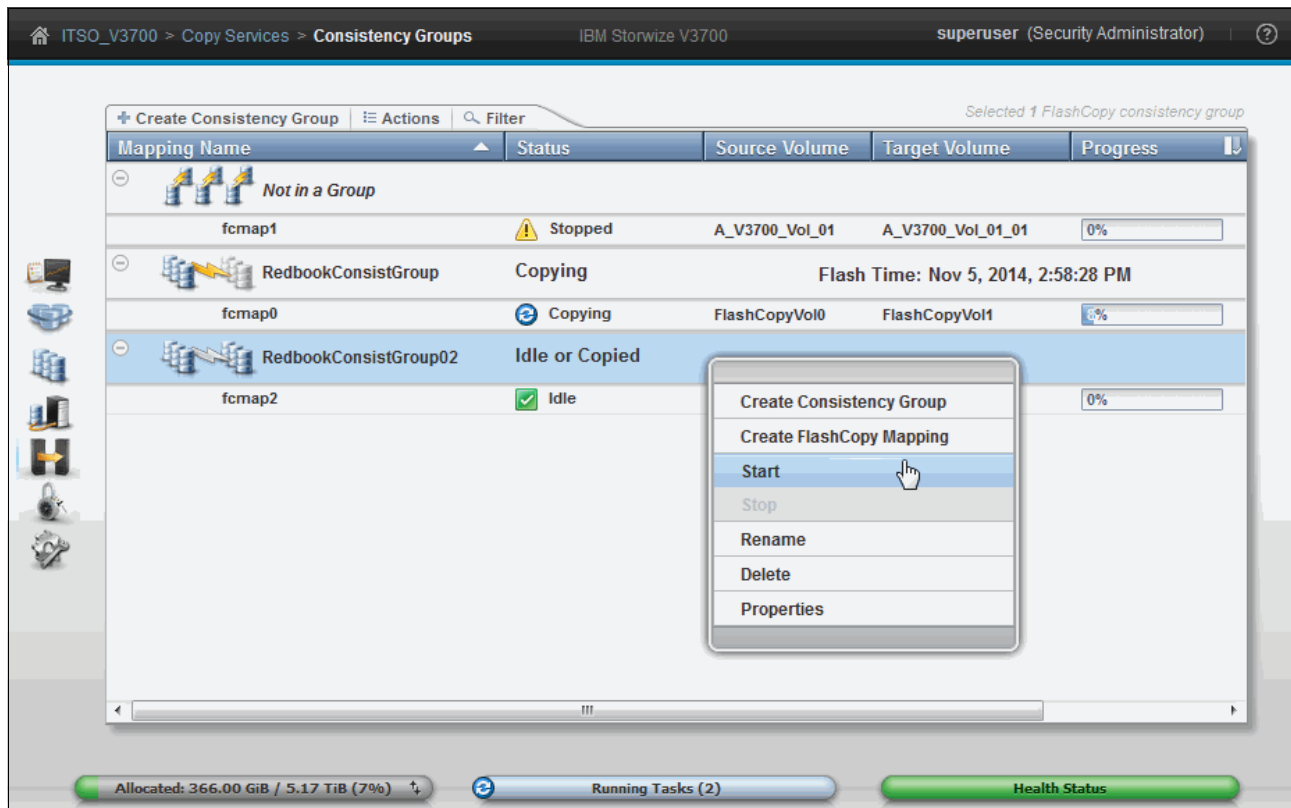

Figure 10-59 Start a consistency group
- Highlight the required group and click **Start** from the **Actions** menu, or right-click the consistency group, as shown in Figure 10-59.